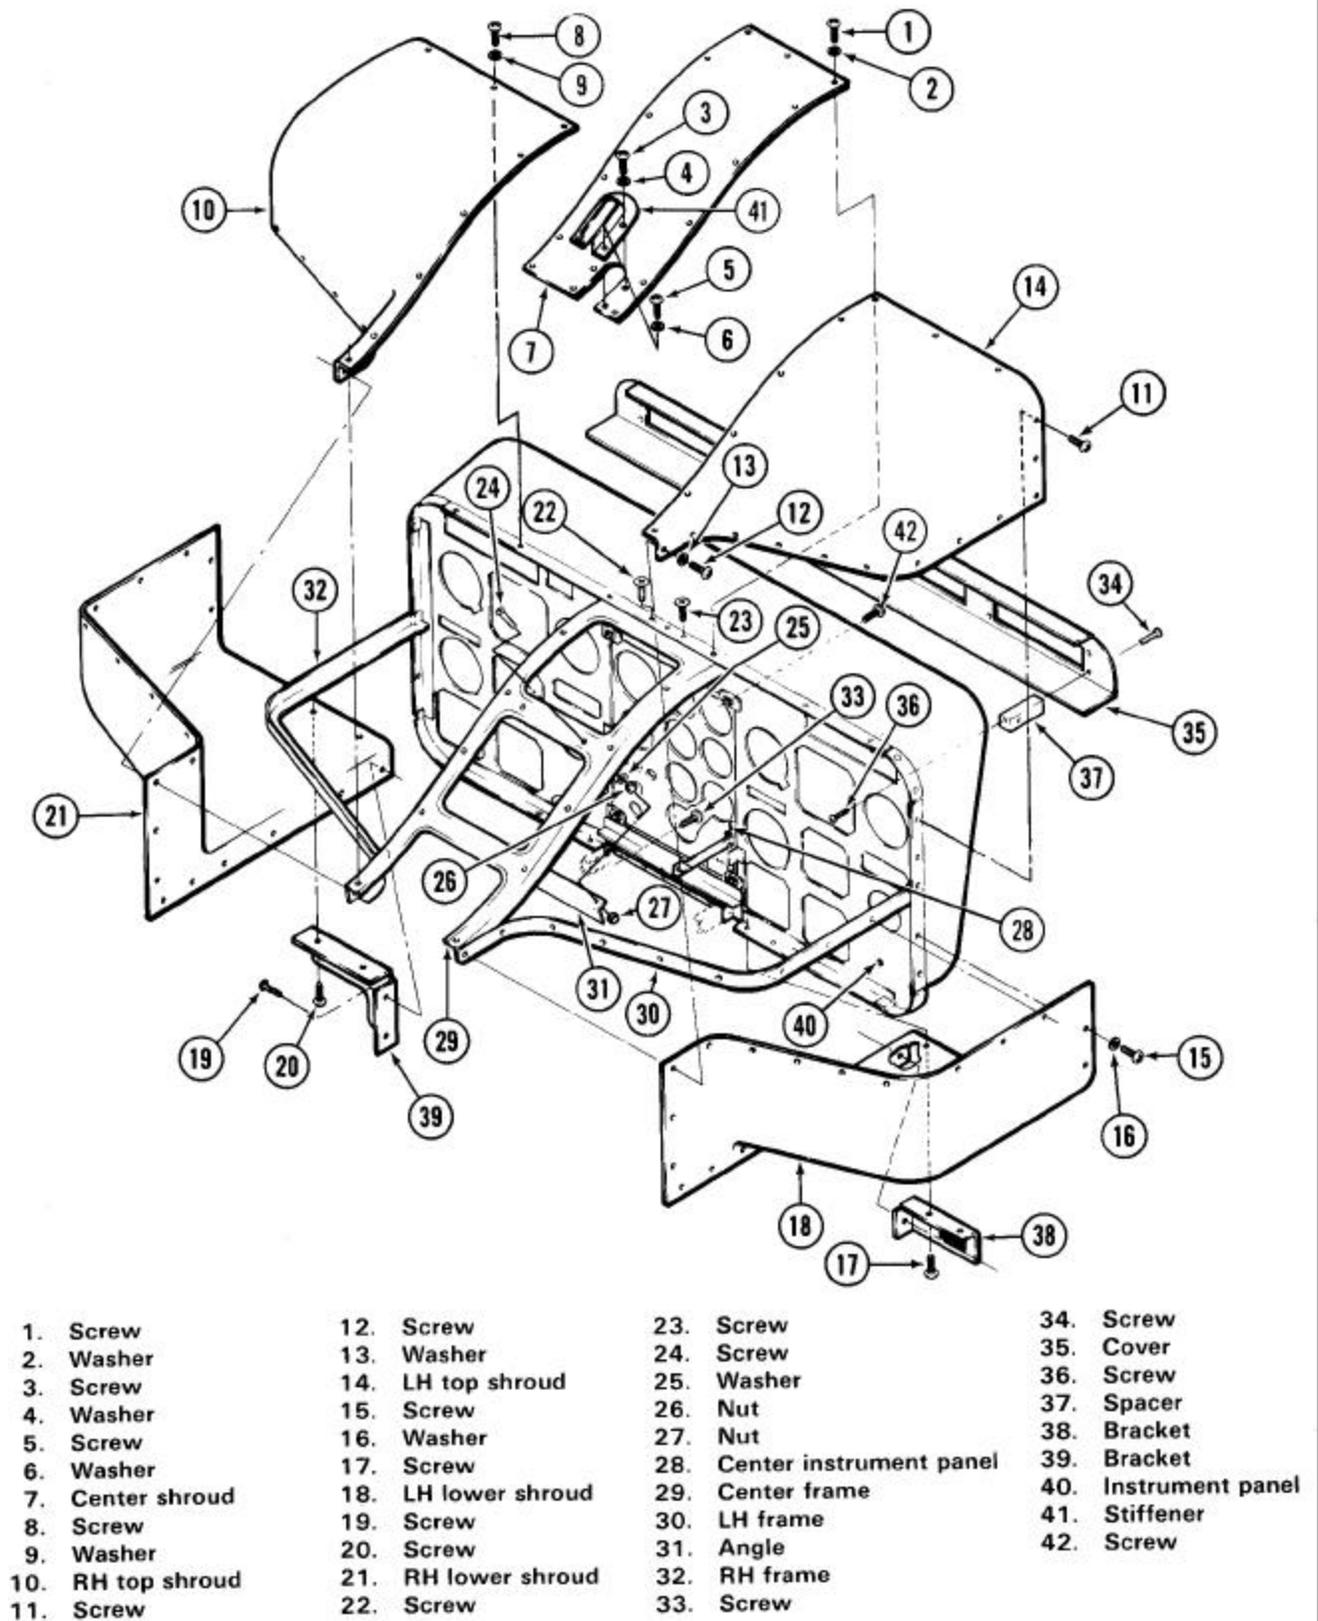

Figure 31-2. Instrument Panel - Removal / Installation
1. Remove shrouds (7,10,14,18,21, Figure 31-2), bracket (39), and stiffener (41) by removing screws (1,3,5,8,11,12,15,17,19,20) and washers (2,4,6,9,13,16).
2. Disconnect electrical connectors from all instruments, and from switches, caution panel lights, and KMA-24 audio controls, and KA-51B slaving (adapter) selector, mounted in bracket (38). Identify and tag electrical connectors.
4. Disconnect wire bundle clamps from angle (31, Figure 31-2).
6. Remove screws (34) attaching cover (35) to spacers (37) on instrument panel (40). Remove cover with components installed.
7. Remove instruments and remove center panel (28) after removing screws (42).
8. Remove screws (33) attaching instrument panel (40) to center frame (29) and console structure. Remove instrument panel.
10. If required, remove angle (31) from center frame (29) by removing nuts (27,26), washers (25), and screws (24).
1. Attach frames (29,30,32, Figure 31-2) to panel using screws (22,23).
2. If required, attach angle (31) to center frame (29), using screws (24), washers (25), and nuts (26,27).
3. Align panel assembly with brackets (38,39) and center console structure. Attach panel assembly to structure using screws (33).